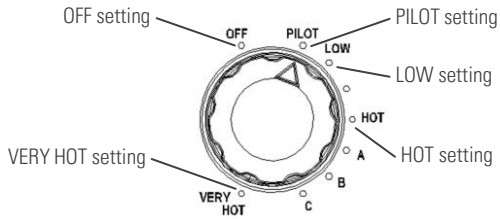

Figure 3. Thermostat knob settings
1. Locate the gas control. Before performing any maintenance, turn the gas control thermostat knob to the OFF setting. (Figure 3)
2. Turn temperature setting knob to OFF position (Figure 3).
5. Rotate the combination gas control thermostat knob clockwise (↻) to the "PILOT" position (Figure 3).
10. Set the gas control thermostat knob to the desired setting (Figure 3).
After the gas and electric connections are made and the water heater tank is full of water, the control must be set to the desired water temperature. **The recommended thermostat knob setting is the "HOT" setting.** This is approximately the 125°F setting and the safest and most economical setting for the water heater. If you want hotter water rotate the thermostat knob clockwise (↻) to a higher setting. If you want cooler water, rotate the thermostat knob counter clockwise (↺) to a lower setting (Figure 3)
Rotate the temperature setting knob counter-clockwise to the "OFF" position. Note: The "STATUS" indicator light will briefly turn green then go off after a short period of time (Figure 3).